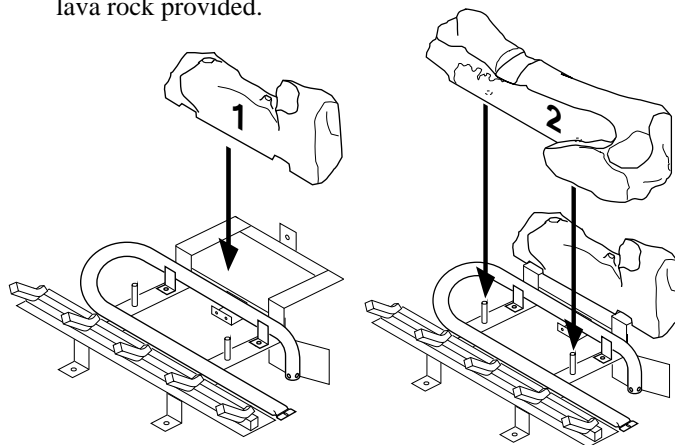

Figure 43 - Installing Log No. 1      Figure 44 - Installing Log No. 2
It is very important to install these logs exactly as instructed in Figures 43 through 47. Do not modify logs. Only use logs supplied with freestanding burner system. Do not use if any log(s) are broken (see *Replacement Parts*, page 23).
2. Place log #1 (back log) on top of grate. Make sure the notches in the bottom of the log fit over the grate (see Figure 43).